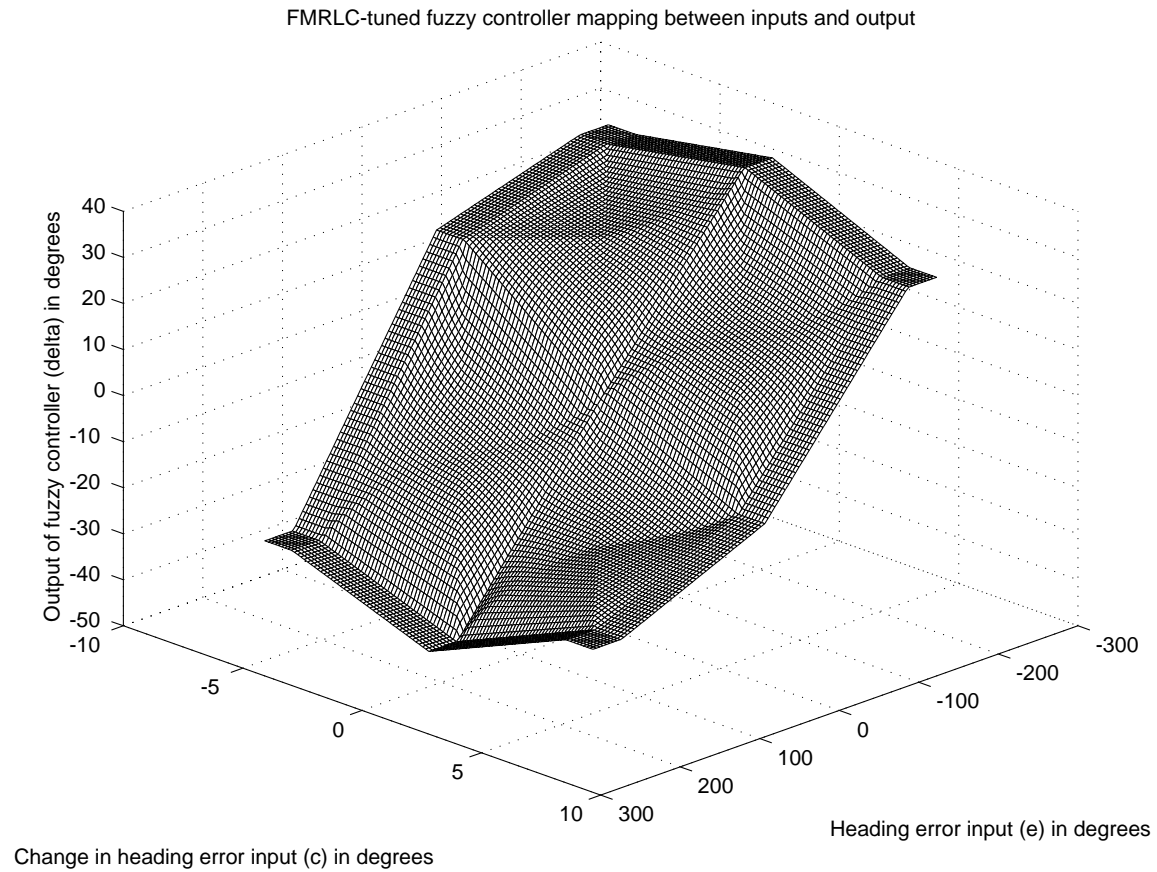

Figure 13: Synthesized fuzzy controller surface.
- Fuzzy controller surface synthesized by the FMRLC is in Figure 13 (but it is still being tuned).